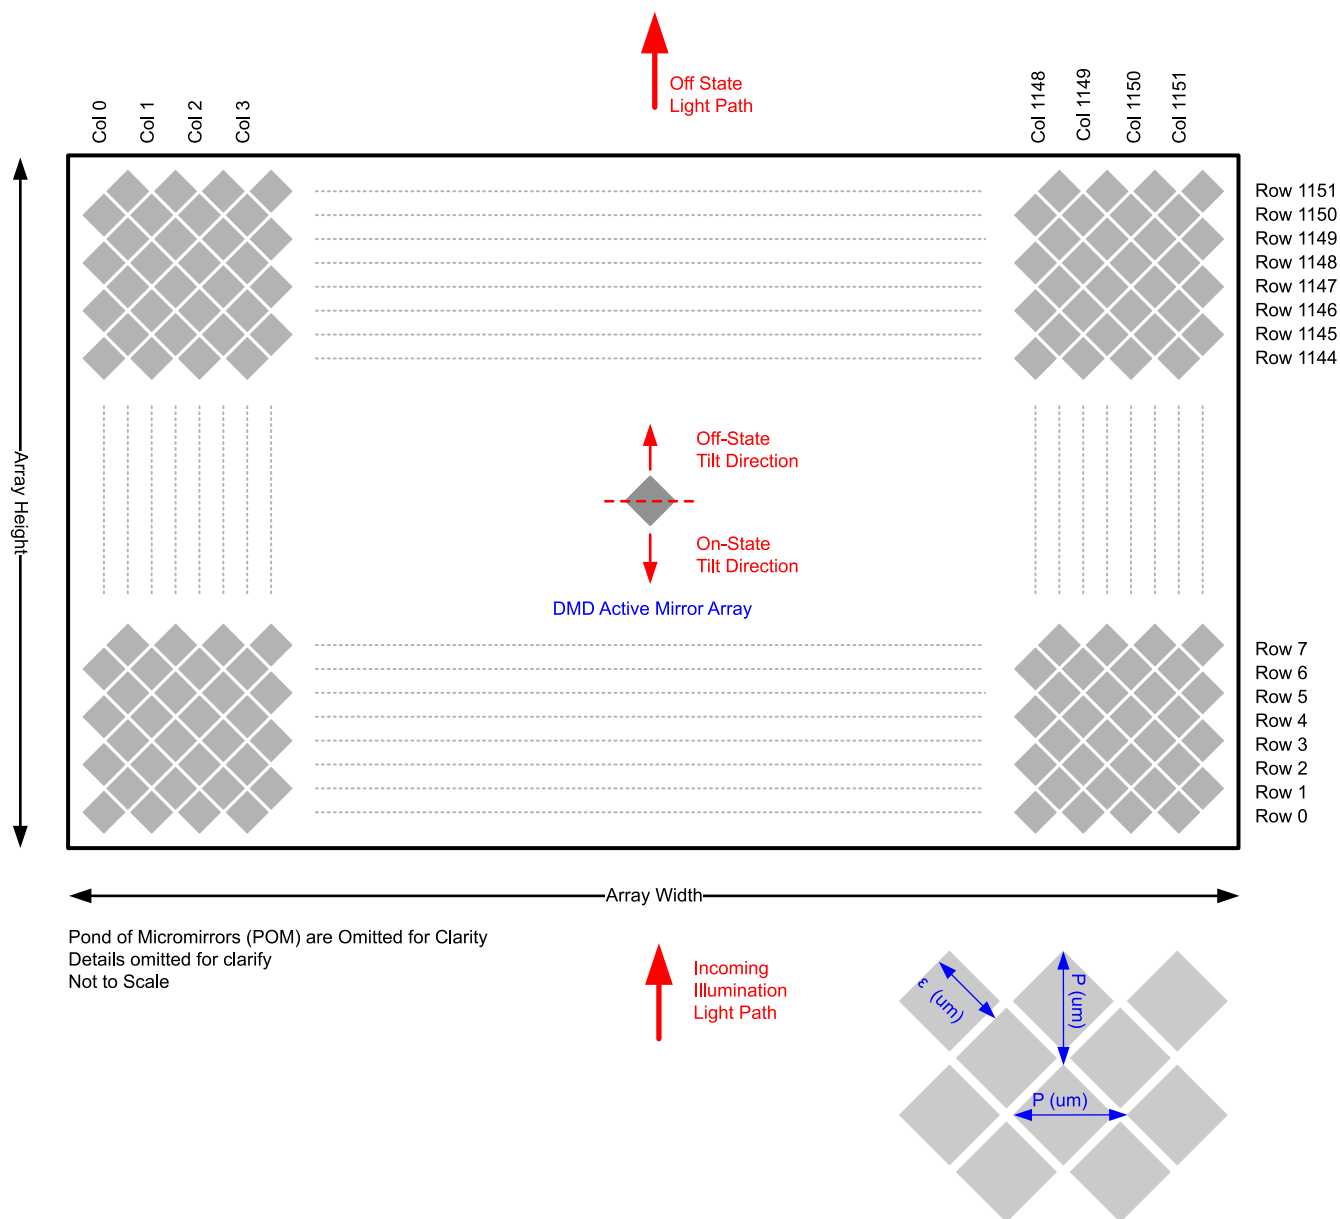

图 6-13. Micromirror Array Physical Characteristics
(1) See Figure 6-13
(2) The structure and qualities of the border around the active array includes a band of partially functional micromirrors called the POM. These micromirrors are structurally and/or electrically prevented from tilting toward the bright or ON state, but still require an electrical bias to tilt toward OFF.
The DLP5532-Q1 Automotive DMD consists of 1,327,104 highly reflective, digitally switchable, micrometer-sized mirrors organized in a two-dimensional array. As shown in Figure 6-13, the micromirror array consists of 1152 micromirror columns × 1152 micromirror rows in a diamond pixel configuration with a 2:1 aspect ratio.